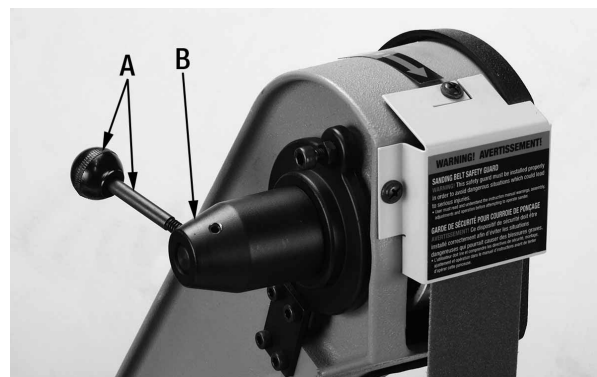

Figure 8
1. Install the belt tension lever and knob (A) Fig.8 into the threaded hole on the belt tension hub (B).